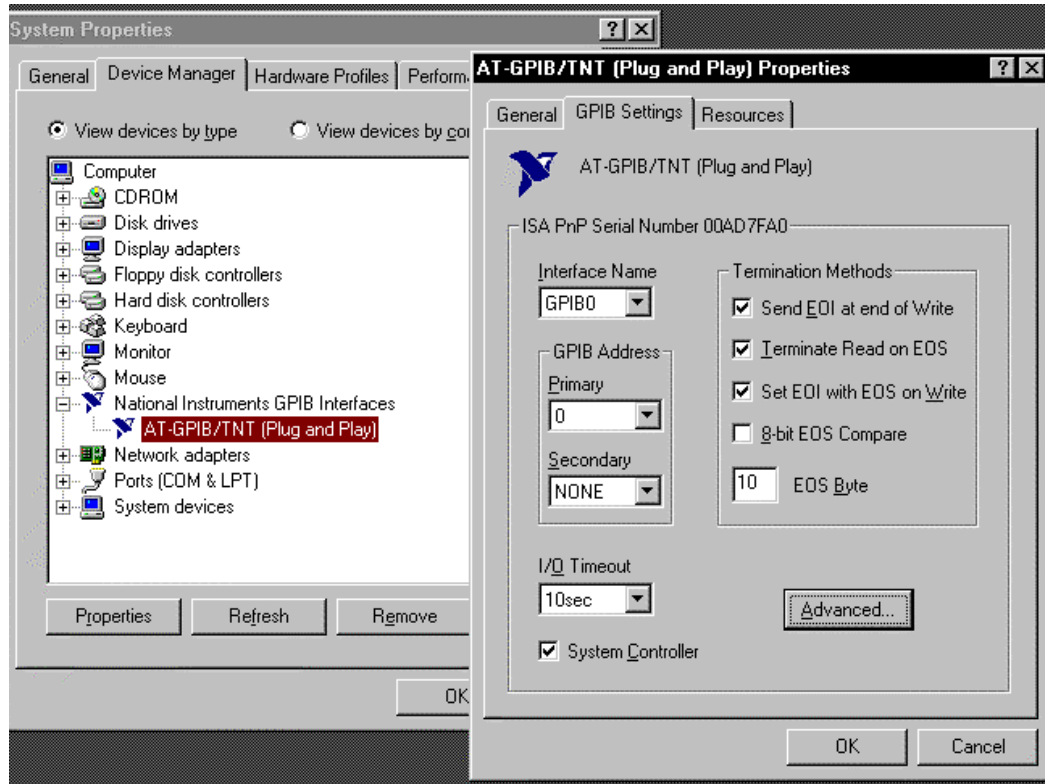

Figure 9-1. GPIB Setting Configuration
4. Configure the GPIB by selecting the System icon in the Windows 98/95 Control Panel located under Settings on the Start Menu. Configure the GPIB Settings as shown in Figure 9-1. Configure the DEV12 Device Template as shown in Figure 9-2. Be sure to check the Readdress box.